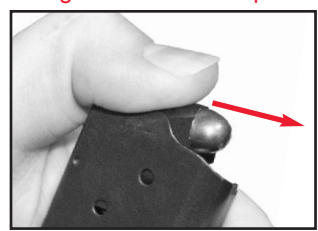

Figure 11
9. Place your thumb on the top cartridge and slide it forward and out of the magazine. See Figure 11.